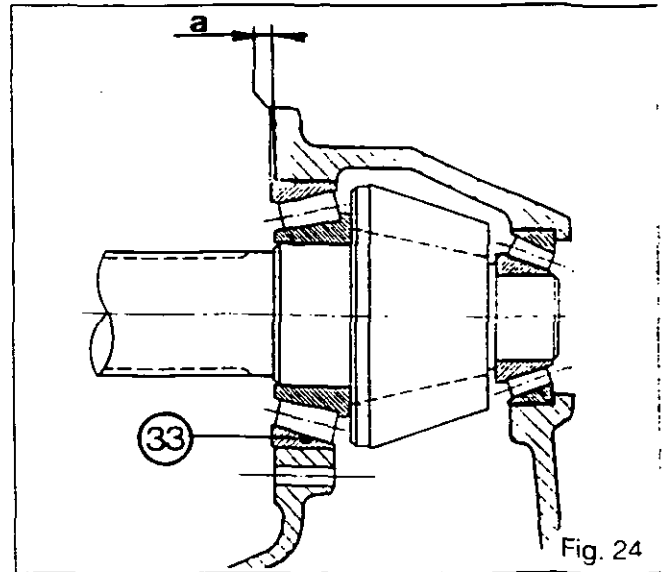
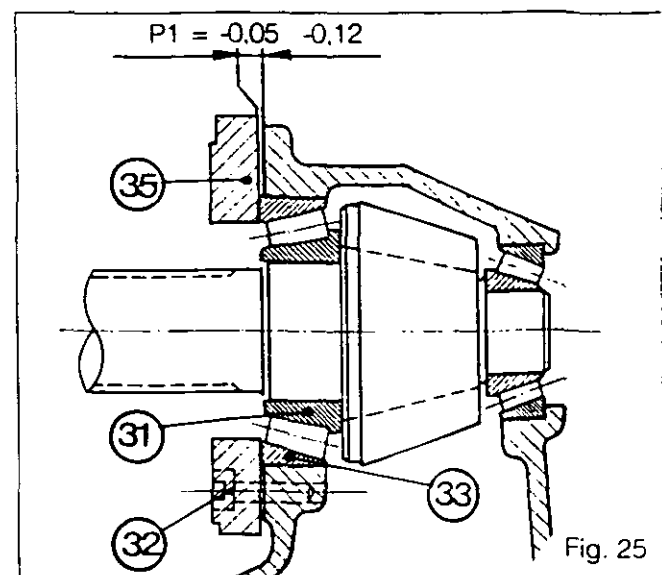

Fig. 24
Fig. 25
78. To determine correct shim thickness, add shims to a greater thickness than "a", i.e. protrusion of cup (33) from housing face (Fig. 24) in order to provide some end float.
79. Screw two guide studs in opposite positions into the housing. Fit the shims [36] of the thickness determined in operation 78 and the supporting plate (35).
80. Fit the screws (32), remove the guide studs and tighten to a torque of 90 - 120 Nm.
81. Now calculate the shims required to obtain P1 (Fig. 25) as follows.